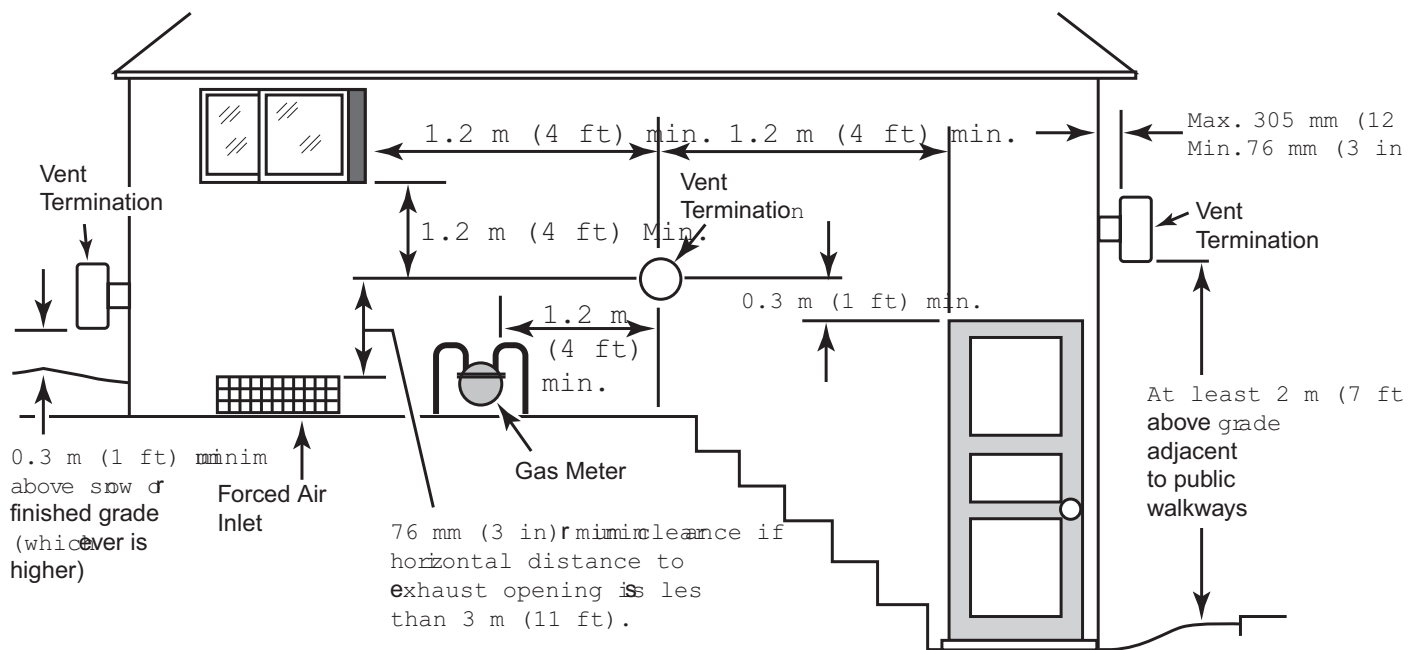

Figure 24.
- at least 76 mm (3 in) and at most 305 mm (12 in) out from the wall (see Figure 24), following the vent manufacturer's instructions